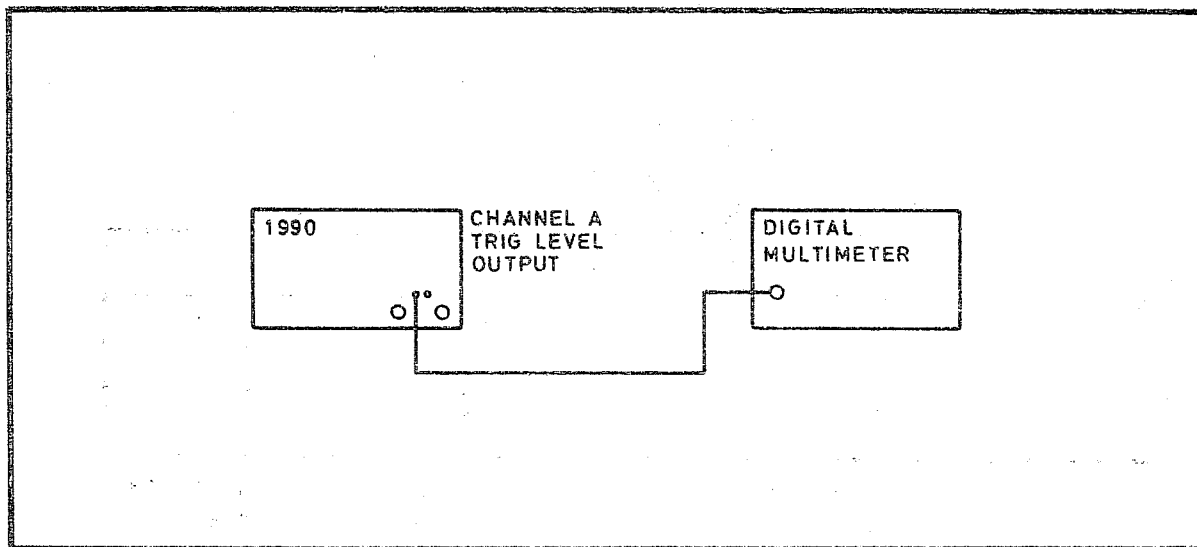

Fig 7.24 Connections for Trigger Level PVP
- 64 (1) Connect the test equipment as shown in Fig 7.24.
- (2) Set the multimeter to measure DC volts.
- (3) Turn the A trigger level control to the positions shown in Table 7.11, and verify that the multimeter readings are within the limits specified.